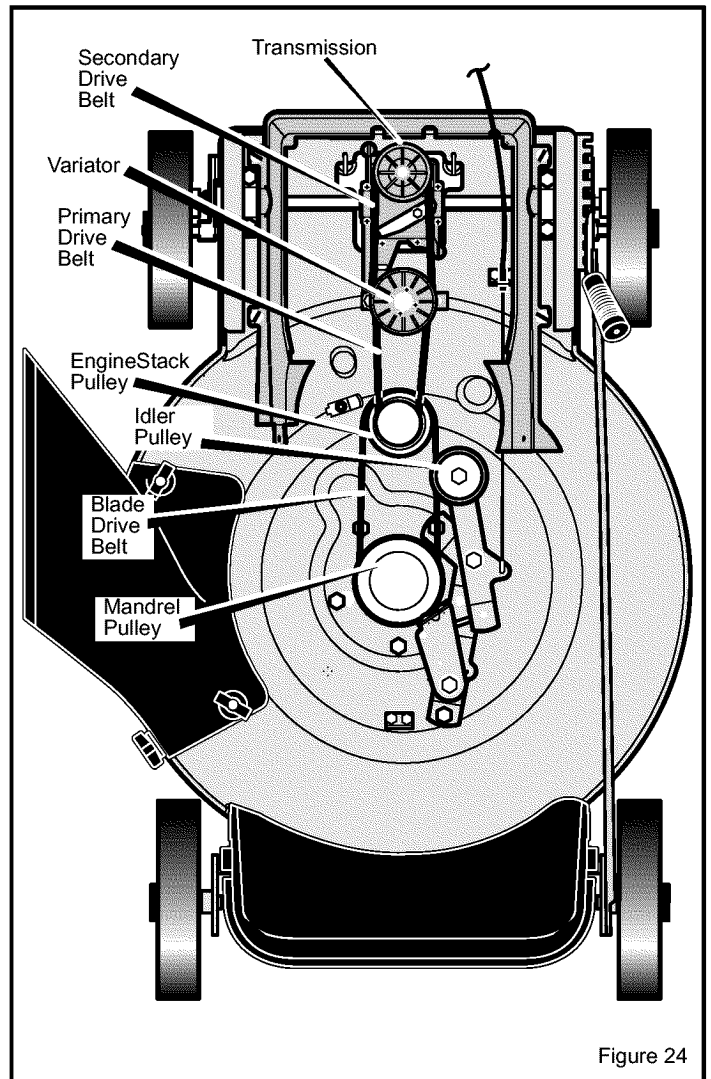

Figure 24
2. Remove the **blade drive belt** from the **engine stack pulley** (see Figure 24).